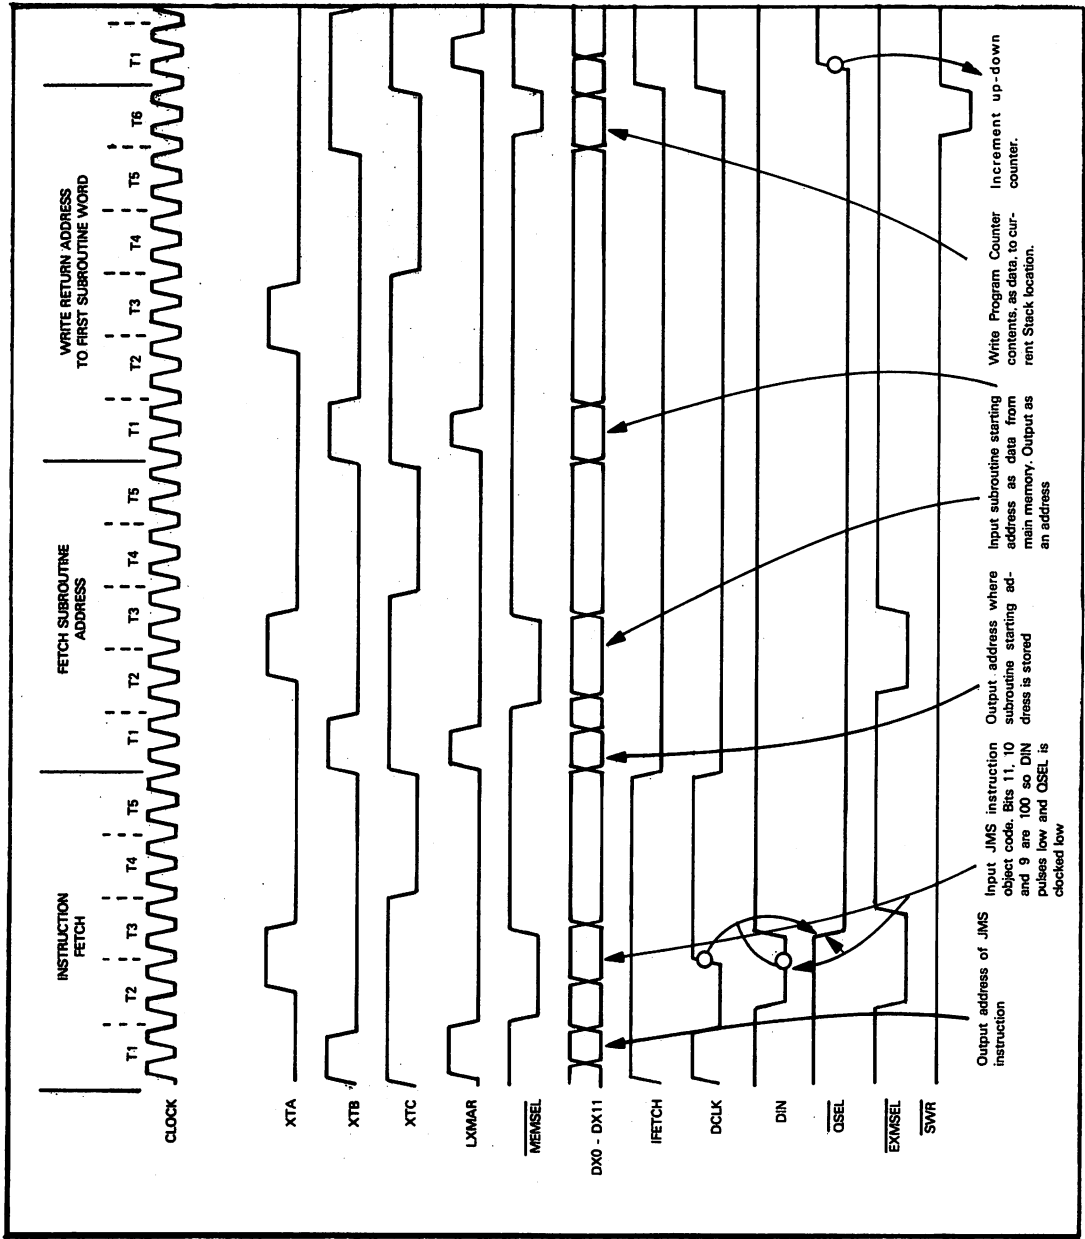
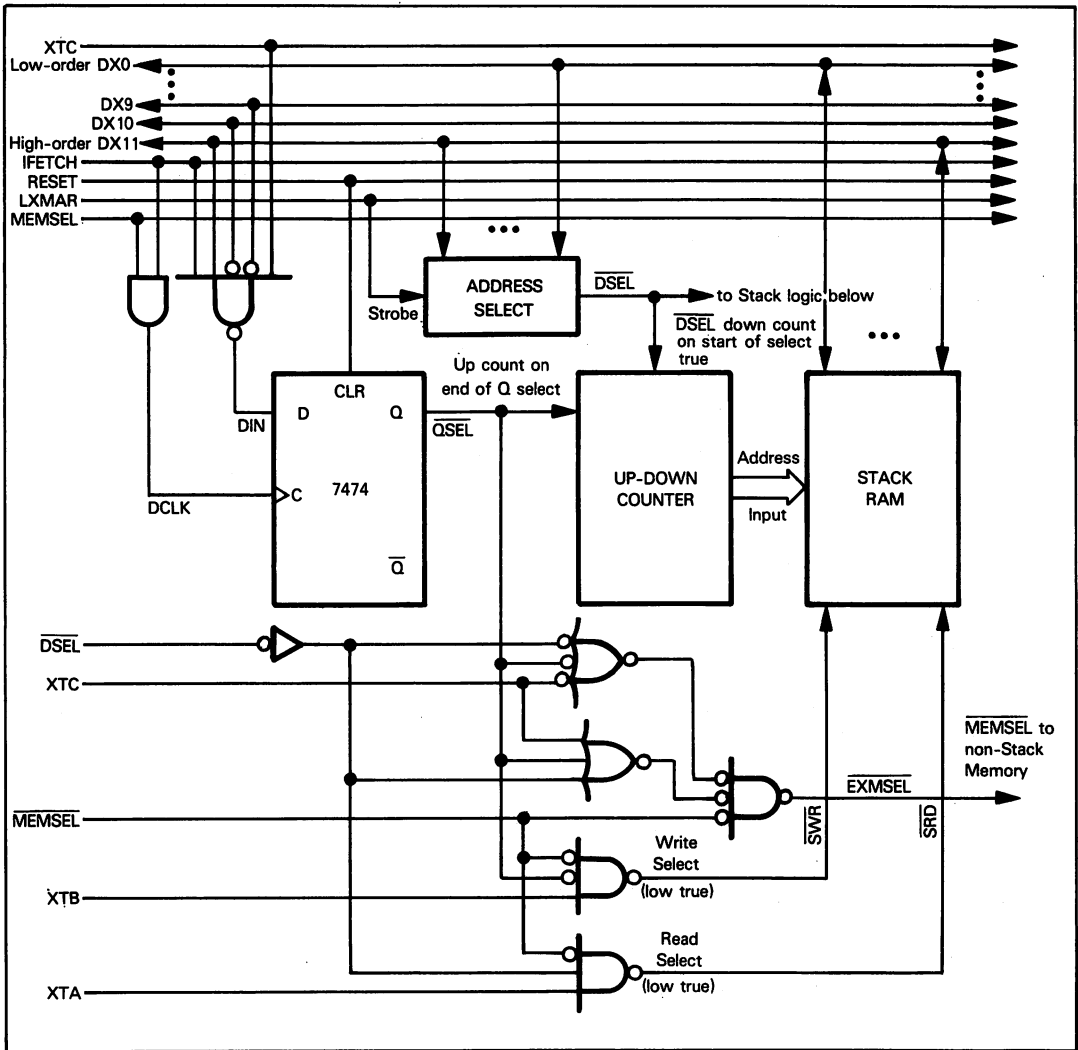

Figure 13-27. IM6100 Jump-to-Subroutine Instruction Timing with Stack Access Logic
Figure 13-28. Using an External Stack Memory to Avoid IM6100 JMS ROM Problems
Consider first the problem of the Jump-to-Subroutine instruction, which we described earlier in this chapter. Recall that the IM6100 Jump-to-Subroutine instruction cannot work when programs are stored in read-only memory, because the subroutine return address is stored in the first word of the subroutine — which will be a read-only memory location. **We can circumvent this problem by creating a special read/write memory stack which is addressed by an up-down counter. Appropriate logic is illustrated in Figure 13-28.**
**We are going to identify the Jump-to-Subroutine object code; then, for the rest of the Jump-to-Subroutine instruction's execution, we will deflect memory write accesses to an external read/write memory stack. Timing and an appropriate event sequence are illustrated in Figure 13-27. Figure 13-28 illustrates the logic used to implement timing in Figure 13-27. Figure 13-28 also shows the logic used to return from subroutines; we will describe this later.**
In Figures 13-27 and 13-28 we use a 7474 D-type flip-flop to generate a low true select signal ( $\overline{QSEL}$ ). This select signal is used to differentiate between stack and normal memory accesses; the trailing low-to-high transition of this select signal is also used to increment the up-down counter, which generates the stack address. Thus, any "write to stack" operation will be a "write and then increment address" operation. The write select signal  $\overline{QSEL}$  is generated low true by decoding 100 on Data/Address Bus lines 11, 10 and 9, while the Data/Address Bus is carrying an instruction object code. We can identify this condition by the combination of IFETCH high and XTC high. This combination generates the DIN input to the 7474 flip-flop, which is clocked by DCLK, the AND of MEMSEL and IFETCH. Since the low-to-high clock transition is active, it is very important that data be stable on the Data/Address Bus until well after MEMSEL has made its low-to-high transition. This may be illustrated as follows:
We have shown the address FFF16 being used as the single address which will always be referenced by Jump Indirect instructions which are returning from an IM6100 subroutine. Our logic in Figure 13-28 will decode the address selected (in this case FFF16) using the LXMAR high pulse as a strobe. Whenever the required address is detected while LXMAR is high, DESL will be output low. The leading high-to-low transition of DESL must be used as a down count trigger for the up-down counter. Thus, all "read from stack" operations will be "decrement and then read" operations. The DESL signal will remain low until another address is detected — that is to say, until the next occurrence of a high LXMAR pulse with another address on the Data/Address Bus. While DESL is low, all memory read operations will be deflected to the stack and away from normal memory. See the truth table given earlier, and the logic of Figure 13-28 for verification of this logic.
**The net effect of Figure 13-28 logic is that all subroutine return addresses will be stored in an external stack. IM6100 and PDP-8E Jump-to-Subroutine instructions will be identical. There will, however, be differences in the Return-from-Subroutine instructions within an IM6100 program as compared to a PDP-8E program. A PDP-8E program which is to run on an IM6100 must have all Return-from-Subroutine Jump Indirect instructions modified to access the single memory location which has been assigned to identify the external stack.**